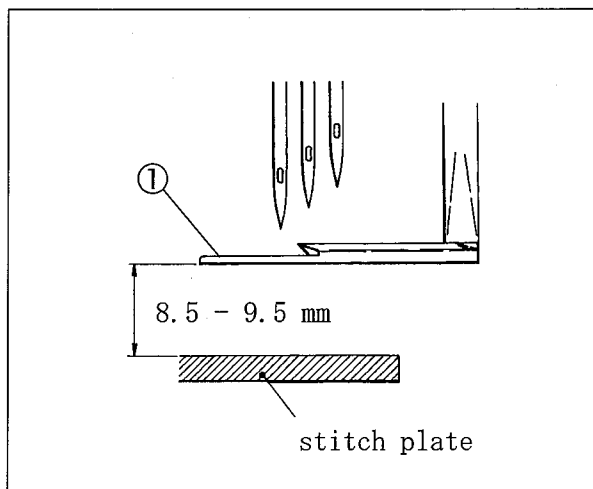

Fig. 45
- (4) Make the height from the top of the stitch plate to the bottom of the spreader ① to 8.5 - 9.5 mm. Then tighten the screw ③ securely. (Figs. 45 and 46)